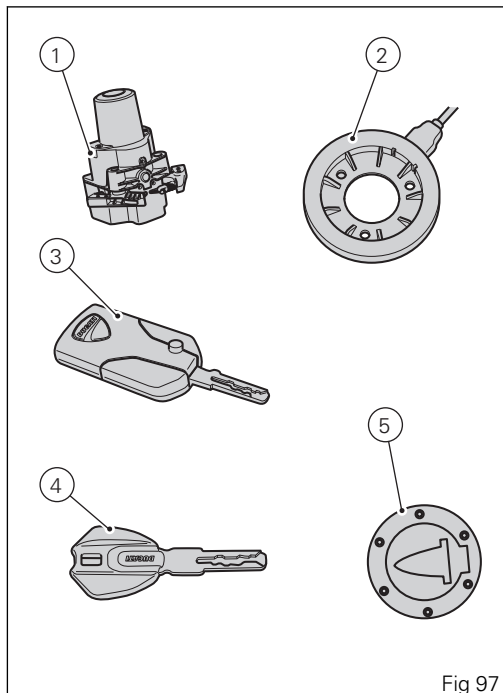

Fig 97
A Key-On can be performed by pressing the red button (6) on the handlebar in the HANDS FREE ON/OFF position and in the presence of the active key (3, Fig 97).
Key-Off can be performed by pressing the red button (6) on the handlebar in the HANDS FREE ON/OFF position. It can also be performed without the key (3, Fig 97) only if motorcycle speed is equal to zero.
with active key. Key-On can be performed by pressing button (7) on the Hands free lock (1, Fig 97) and with the presence of the active key (3, Fig 97).
Key-Off can be performed by pressing button (7) on the Hands free lock (1, Fig 97), also without the key (3, Fig 97).
A Key-On can be performed by pressing the red button (6) on the handlebar in the HANDS FREE ON/OFF position and in the presence of the passive key (4, Fig 97).
Key-Off can be performed by pressing the red button (6) on the handlebar in the HANDS FREE ON/OFF position. It can also be performed without the key (4, Fig 97) only if motorcycle speed is equal to zero.
Key-On can be performed by pressing button (7) on the Hands free lock and with the presence of the passive key (4, Fig 97).
Key-Off can be performed by pressing button (7) on the Hands free lock (1, Fig 97), also without the key (4, Fig 97).
Key-On can be performed by pressing button (7) on the hands free lock (1, Fig 97) without the presence of the keys (3, Fig 97) and (4, Fig 97) and entering the pin code on the instrument panel.